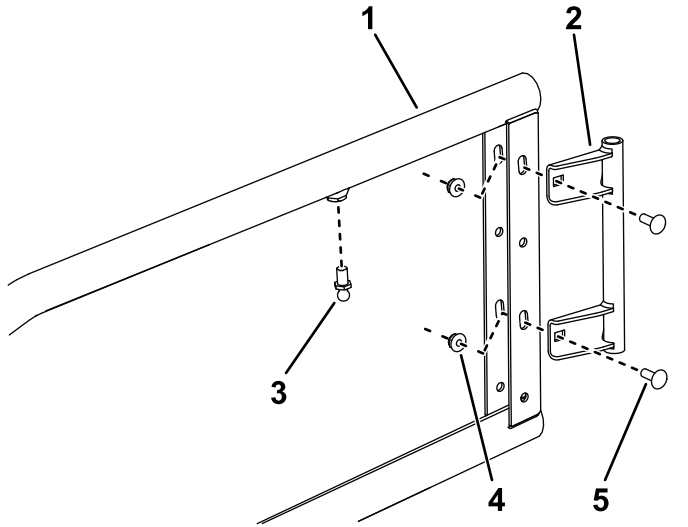

Figure 3
1. Loosely secure a door pivot to the slots in the door frame using 2 carriage bolts and locknuts as shown in Figure 3.
2. Install a stud to the door frame as shown in Figure 3; torque to 10 to 12 N·m (90 to 110 in-lb).